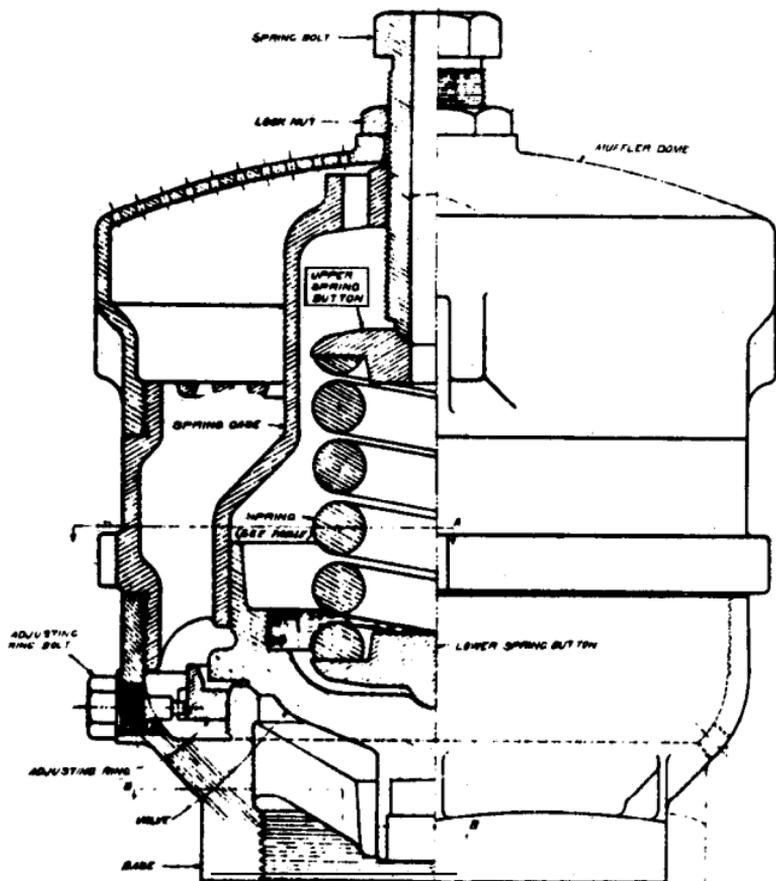

FIG. 5 SAFETY VALVE.
**Safety Valves**—Each locomotive boiler is equipped with at least two safety valves (Fig. 5, page 11). Their purpose is to relieve the boiler of excess pressure. These valves are located on top of the boiler and operate automatically. If one valve fails or does not relieve the pressure fast enough, the other valve will assist.